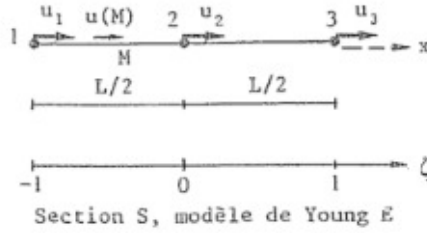

Figure 7: Quadratic isoparametric FE of bars.
1. Determine the quadratic interpolating function of the displacement field (using the natural coordinate $\xi \in [-1, 1]$) in a linearly elastic bar (sketched on Fig. 7)